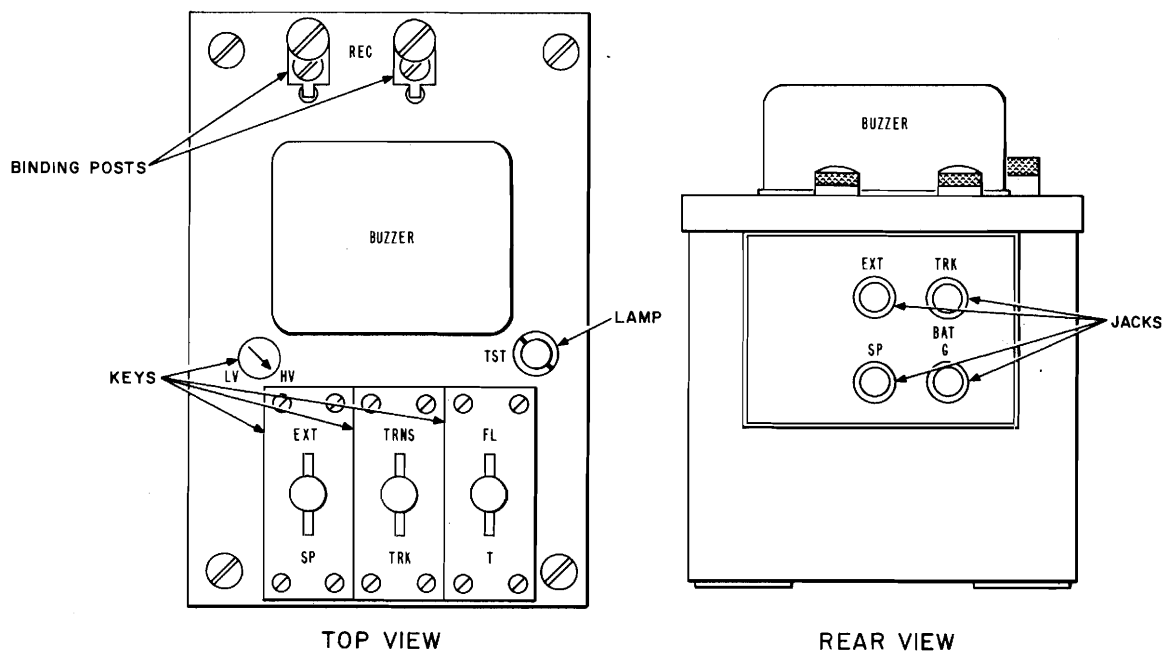

Fig. 2 — Cord Test Set Location of Jacks, Keys, and Lamp
2.02 Four jacks, which are located in one end of the box (Fig. 2), are designated EXT, TRK, SP, and BAT G. The front and rear PBX cords under test are connected to the TRK and EXT jacks. An idle cord is normally connected to the SP jack and a W3A cord is connected to the BAT G jack. These latter two cords supply battery, ground, and ringing current to the test set.